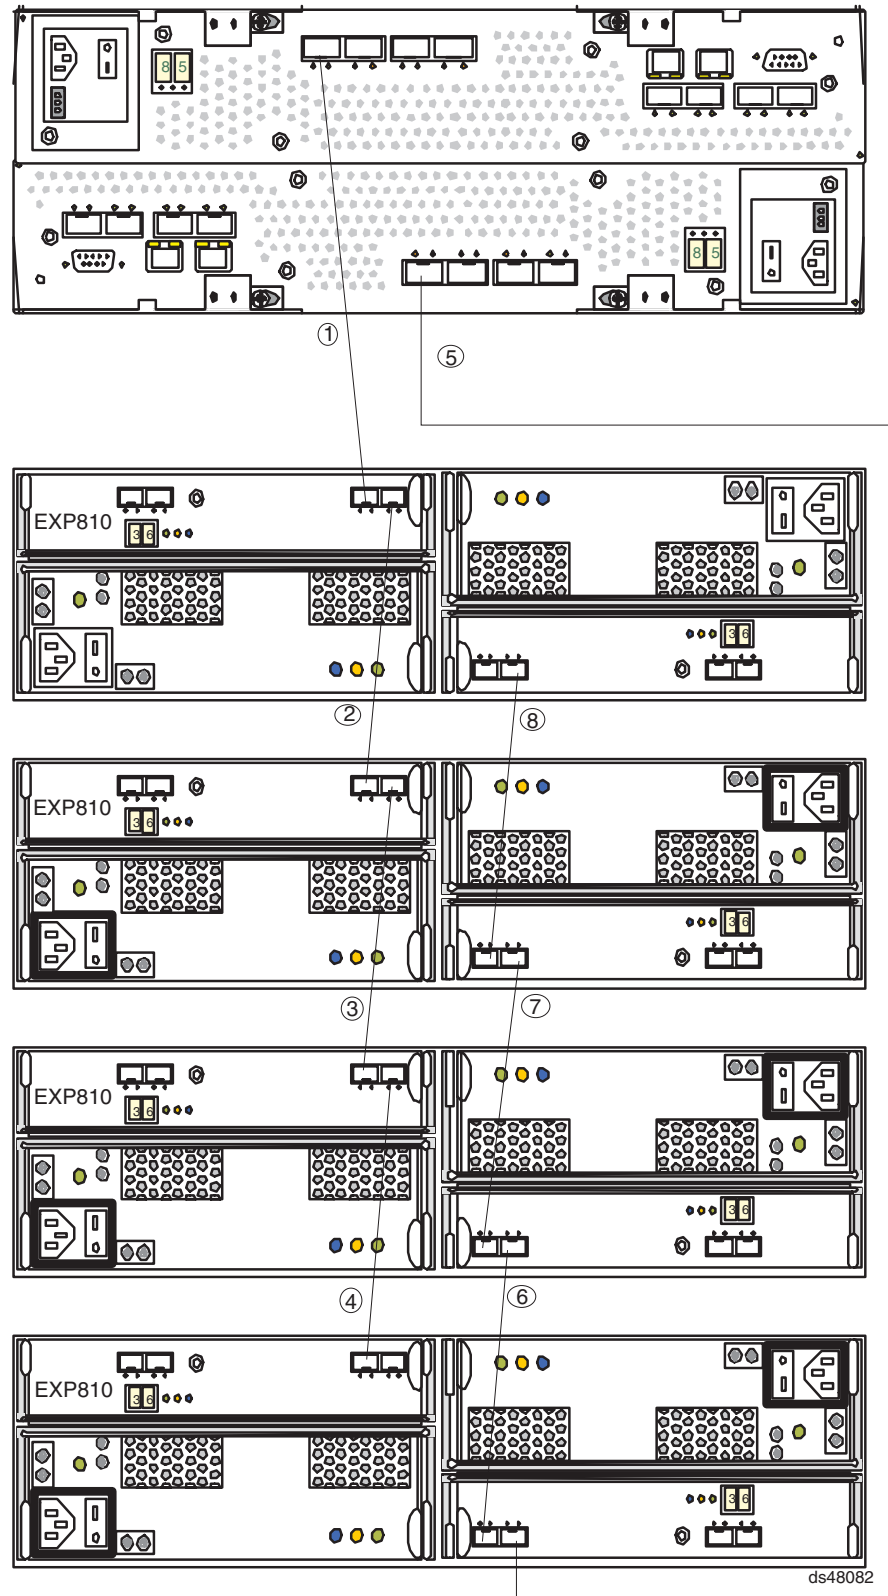

Figure 47. Connecting EXP810 enclosures to DS4800
- a. Start with the first storage expansion enclosure from the group of EXP810 drive expansion enclosures that will be cabled together. Connect the 1A port on the left ESM board to the 1B port on the left ESM board of the second (next) enclosure. (See callout 2 in Figure 47 on page 67.)
- b. On the first storage expansion enclosure from the group of drive expansion enclosures that will be cabled together, connect the 1B port on the right ESM board to the 1A port on the right ESM board of the second (next) enclosure. (See callout 8 in Figure 47 on page 67.)
- c. If you are cabling more storage expansion enclosures to this group, repeat steps 5a and 5b for all enclosures except the final enclosure in the loop, starting with the second enclosure. (See callouts 3 and 4 for the left ESM connections and callouts 7 and 6 for the right ESM connections in Figure 47 on page 67.)
- d. Connect drive port 4 (drive channel 1) of controller A to the to the 1B port on the left ESM board of the first storage expansion enclosure in the group of drive expansion enclosures. (See callout 1 in Figure 47.)
- e. Connect drive port 1 (drive channel 3) of controller B to the port 1B on the right ESM board of the last storage expansion enclosure in the group of drive expansion enclosures. (See callout 5 in Figure 47 on page 67.)